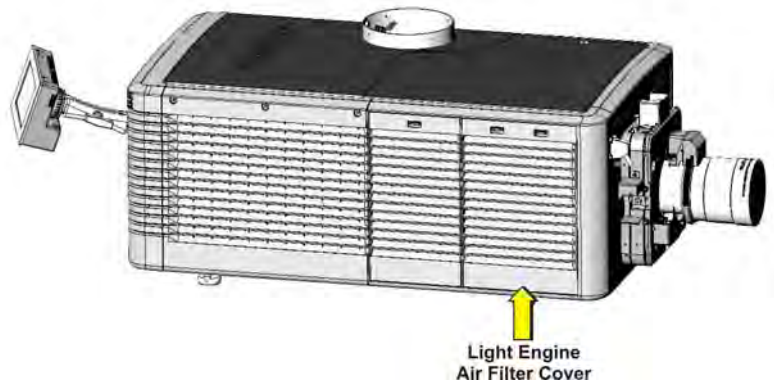

Figure 5-12 Light Engine Air Filter Cover
2. Remove the light engine air filter cover (including filter). (**Figure 5-12**)
1. Push down on the two snap tabs at the top of the cover. (**Figure 5-12**)